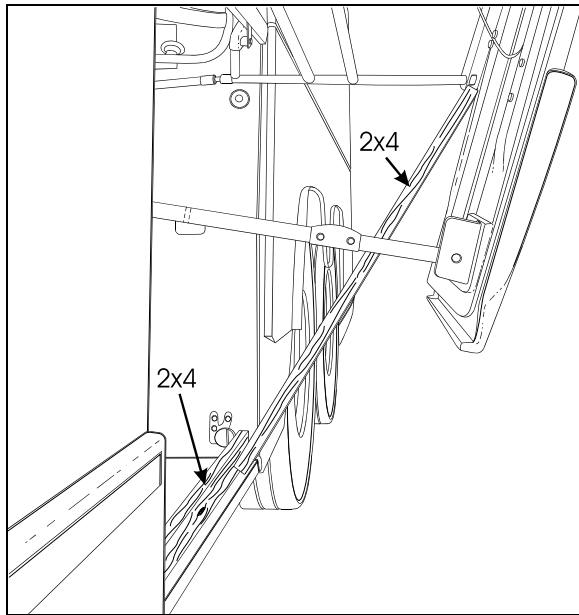

FIGURE 57: PANTOGRAPH ADJUSTMENT
3. Install another piece of 2x4 between the first piece and the bottom of the pivot of the lowest (or shortest) pantograph arm, (Figure 57).